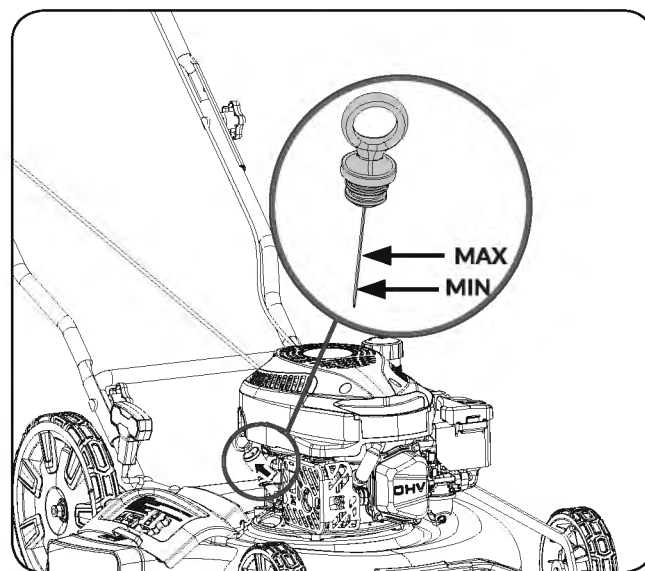

Figure 13
- Remove the dipstick by rotating the cap counterclockwise and pulling it out. (See **Figure 13**)
10. Read the oil level on the dipstick. (See **Figure 13**)